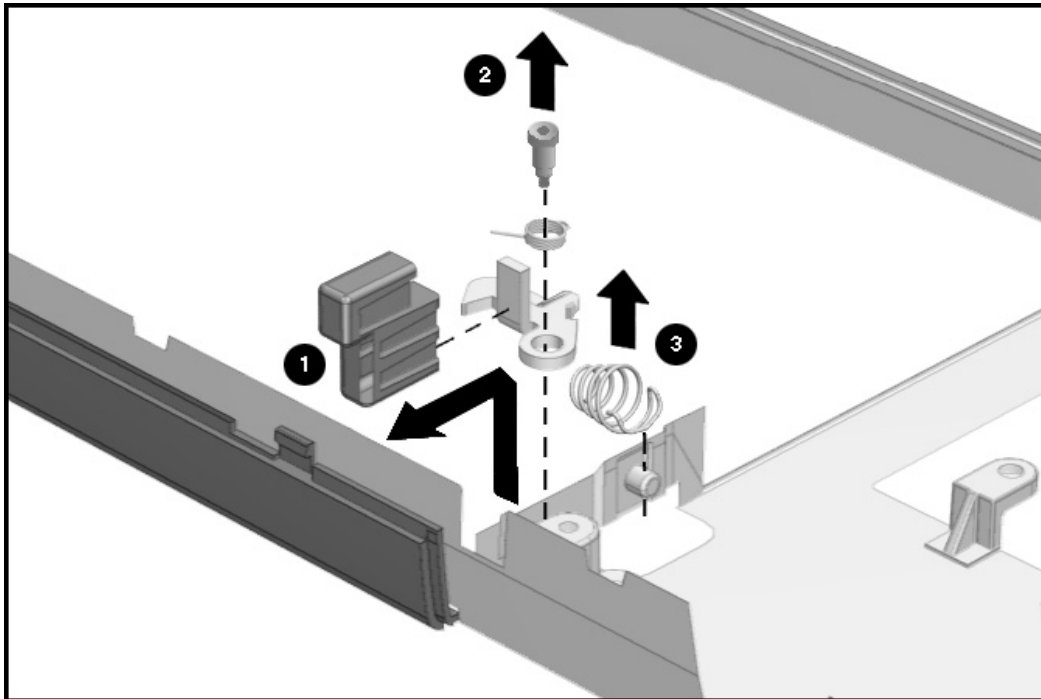

Figure 5-55. Removing the DualBay Eject Button and Spring
- If you need to reinstall the clip, reinstall it by slipping the clip under the rubber speaker isolation strip. Be sure the fingers of the grounding clip make contact with the magnesium frame and left speaker frame. While replacing screws in the system board during reinstallation, secure the clip in place with screw number 2 as shown in Figure 5-55.